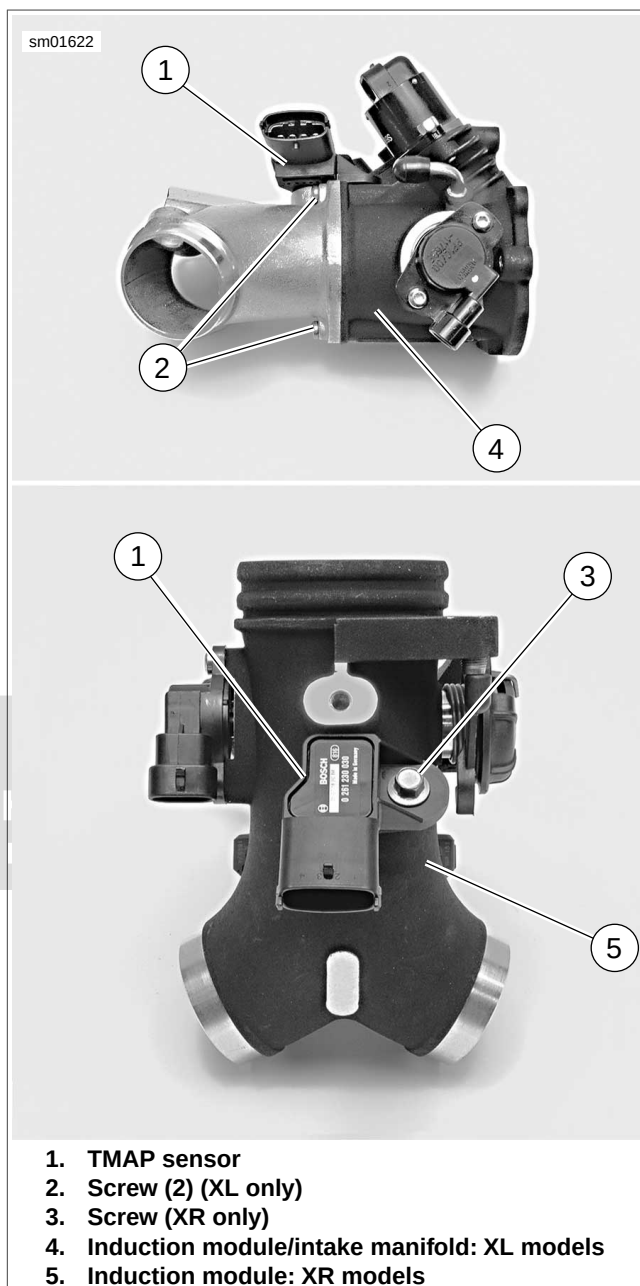
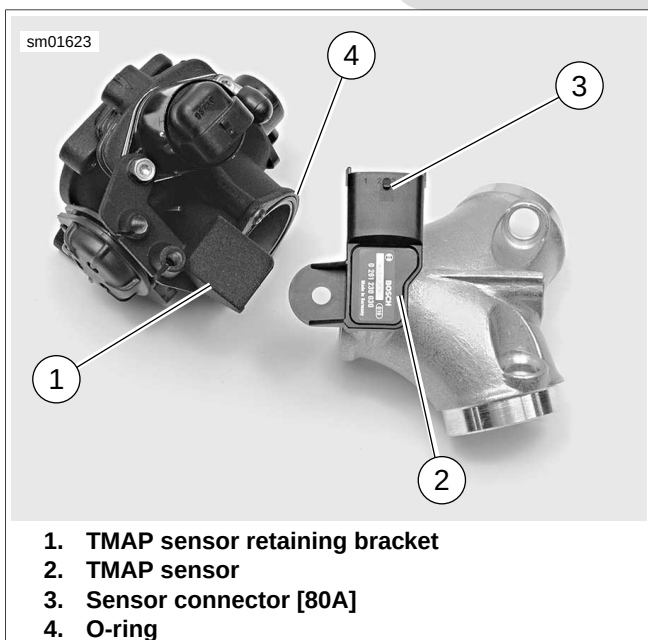

Figure 4-60. TMAP Sensor Location (Induction Module Removed From Vehicle for Clarity)
Figure 4-61. TMAP Sensor Removal/Installation (Induction Module Removed From Vehicle for Clarity)
See Figure 4-60. The Temperature Manifold Absolute Pressure (TMAP) sensor (1) performs the dual functions of monitoring air temperature and air pressure in the intake manifold.
4. See Figure 4-60. Remove two screws (2) and separate induction module from intake manifold. See 4.10 INDUCTION MODULE: XL MODELS.
5. See Figure 4-61. Pull induction module away from intake manifold far enough so that TMAP sensor retaining bracket (1) clears TMAP sensor body (2).
6. Unplug harness connector [80B] from TMAP connector [80A] (3).
3. See Figure 4-61. With a gentle twisting motion, insert sensor (2) into intake manifold with connector [80A] (3) facing rear cylinder head.
5. Examine o-ring (4) between induction module and intake manifold for cuts, tears or signs of deterioration. Install **new** o-ring if necessary. Make certain o-ring is fully seated in its grove in induction module body.
6. See Figure 4-60. Mate induction module to intake manifold and secure with two screws (2) Tighten to 35 **in-lbs** (4.0 Nm).